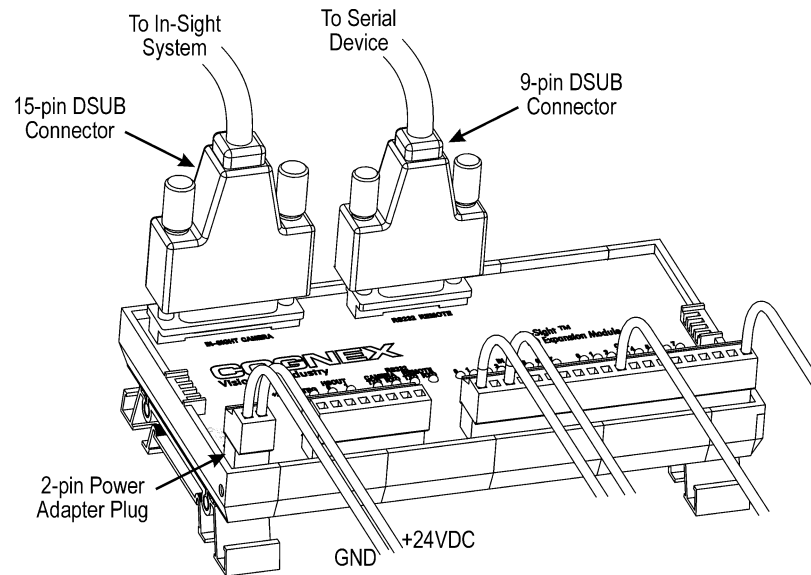

Figure 2-3: I/O Expansion Module Connections
- 6 Plug wire leads from a 24VDC supply for the +24V power and ground into the 2-pin terminal plug labeled "Power Input" on the Expansion Module. Alternatively, remove the terminal plug and insert the 2-pin terminal plug attached to the (optional) In-Sight power adapter into the keyed power adapter port on the Expansion Module (Figure 2-3).